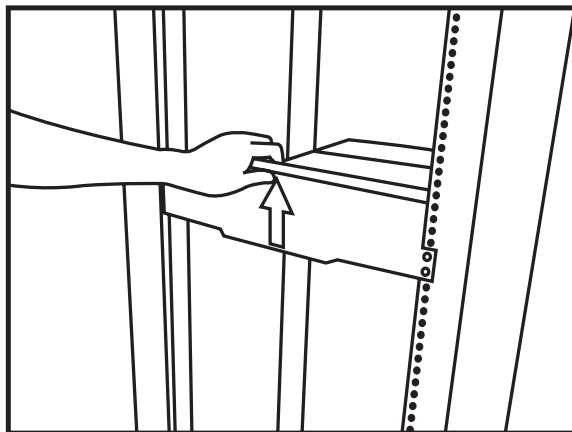

Figure 4-7. Opening the LCD monitor only.
1. Holding the LCD monitor's handle, pull it upwards. See Figure 4-7.